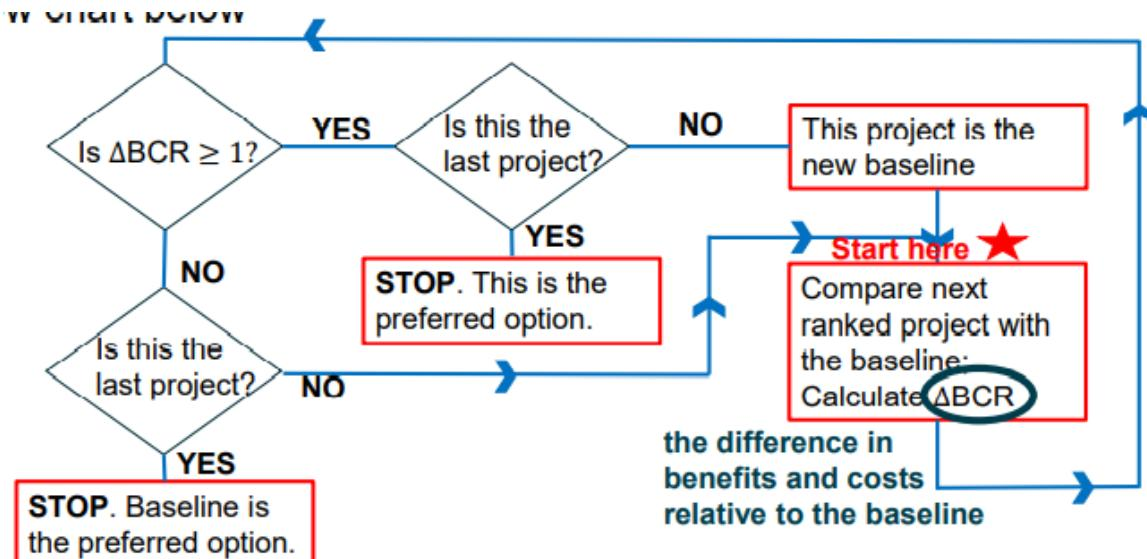

Figure 5.1: Flow chart for evaluating mutually exclusive projects
4. Follow the flow chart in Figure 5.1